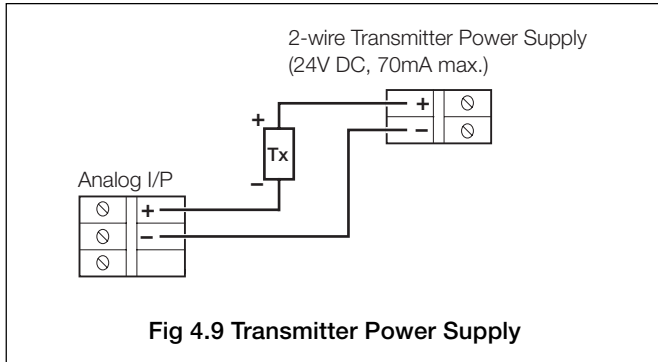

Fig 4.9 Transmitter Power Supply
4.5.4 Transmitter Power Supply – Fig. 4.9